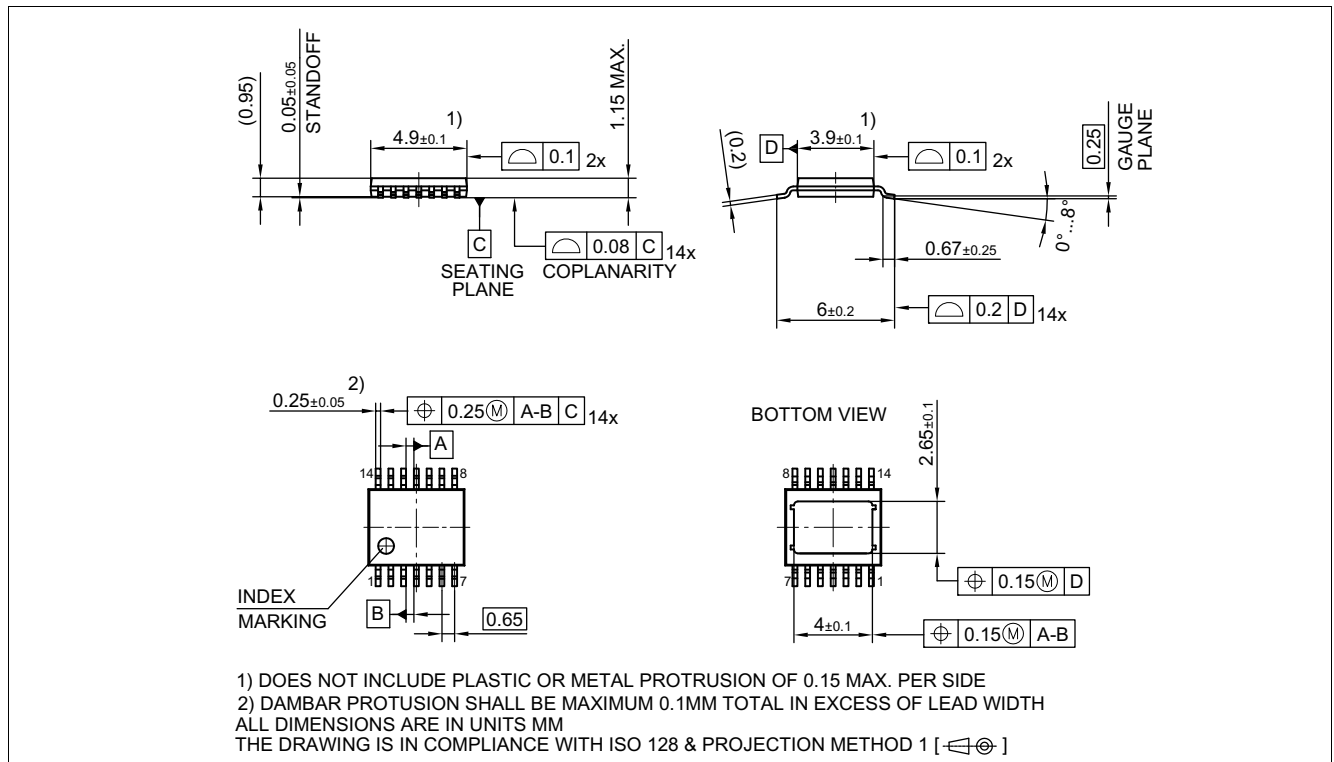
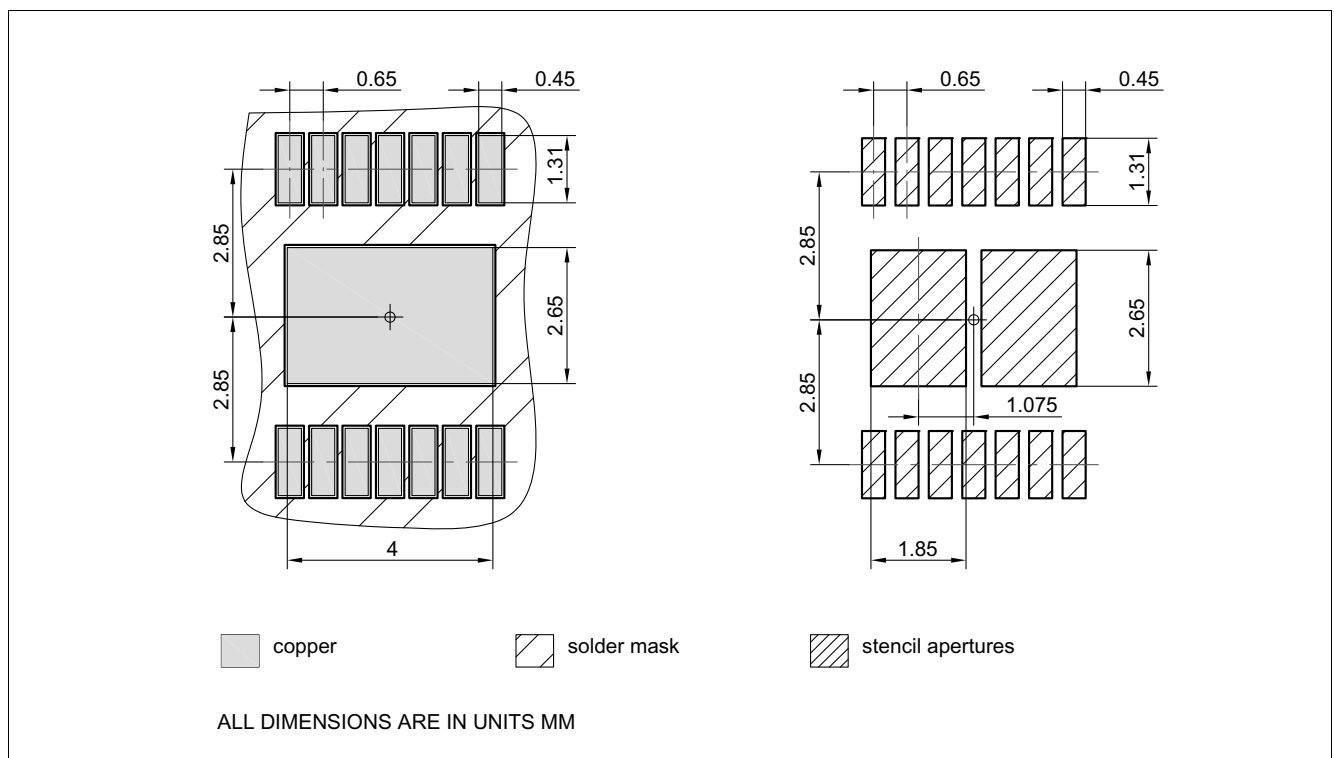

Figure 44 PG-TSDSO-14 (Thin (Slim) Dual Small Outline 14 pins) Package Outline
Figure 45 PG-TSDSO-14 (Thin (Slim) Dual Small Outline 14 pins) Package pads and stencil
1.03 , 2018-10-18	Chapter 9.3.1 updated (typo) Page 1: updated (Package PG-TSDSO-14-22 → Package PG-TSDSO-14) Figure 29 updated Figure 44 updated (PG-TSDSO-14-22 (Thin (Slim) Dual Small Outline 14 pins) Package Outline → PG-TSDSO-14 (Thin (Slim) Dual Small Outline 14 pins) Package Outline) Figure 45 updated (PG-TSDSO-14-22 (Thin (Slim) Dual Small Outline 14 pins) Package pads and stencil → PG-TSDSO-14 (Thin (Slim) Dual Small Outline 14 pins) Package pads and stencil) Table 1 updated ((Symbol: $I_{VS(SLEEP)}$ → $I_{VS(SLEEP)_{85}}$), (Parameter: Minimum Overvoltage protection ($T_J = 25\text{ °C}$) → Minimum Overvoltage protection ($T_J \geq 25\text{ °C}$)) P_9.6.0.6 updated (Note or Test Condition: removed unnecessary line-break) Chapter 7.4.1 updated chapter title (PROFET → PROFET™) Table 12 updated table title (PROFET → PROFET™) Chapter 8.6.1 updated chapter title (PROFET → PROFET™) Table 16 updated table title (PROFET → PROFET™) Chapter 9.5.1 updated chapter title (PROFET → PROFET™) Table 21 updated table title (PROFET → PROFET™) P_4.1.0.21, P_4.1.0.22, P_4.1.0.23, P_4.1.0.24 updated (footnote ESD standards) Table 1 updated ($R_{DS(ON)} \rightarrow R_{DS(ON)_{150}}$), ($V_{DS(CLAMP)} \rightarrow V_{DS(CLAMP)_{25}}$) Chapter 8.5.2 updated phrasing P_7.5.5.14 Table subheading "Switching Energy" added P_7.5.5.15 Table subheading "Switching Energy" added Chapter 6.4 added conditions Chapter 7.5 added conditions P_7.5.5.14 updated (Test condition: add "See Figure") P_7.5.5.15 updated (Test condition: add "See Figure") Chapter 8.7 added conditions Chapter 9.6 added conditions P_9.7.5.27 updated (Test condition: add "See Figure") P_9.7.5.29 updated (Test condition: add "See Figure") Chapter 7.3.1 typo corrected (link to Figure 19 added)